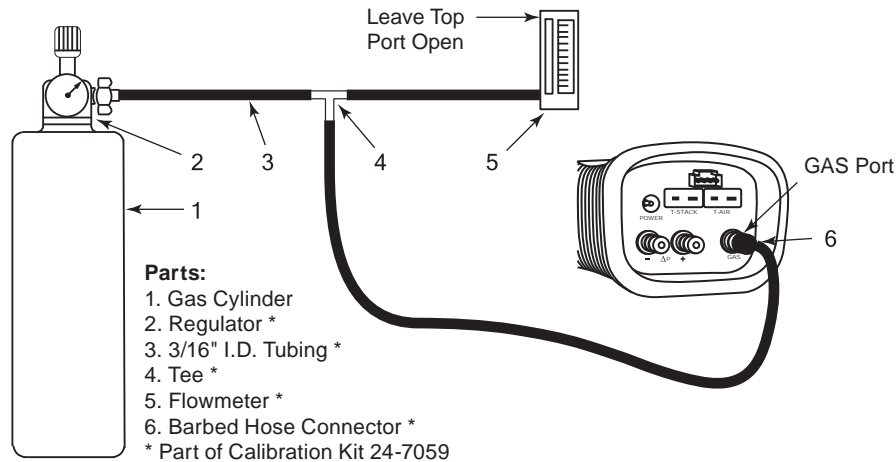

Figure 5-2. Gas Sensor Calibration Equipment
3. Attach a 500 ppm CO cylinder to the regulator of the calibration fixture shown in Figure 5-2 on Page 85.
3. Attach a 100 ppm SO2 cylinder to the regulator of the calibration fixture shown in Figure 5-2 on Page 85.
- Attach a 250 ppm NO cylinder to the regulator of the calibration fixture shown in Figure 5-2 on Page 85.
3. Attach a 100 ppm NO2 cylinder to the regulator of the calibration fixture shown in Figure 5-2 on Page 85.
3. Attach a 4,000 ppm CO cylinder to the regulator of the calibration fixture shown in Figure 5-2 on Page 85.